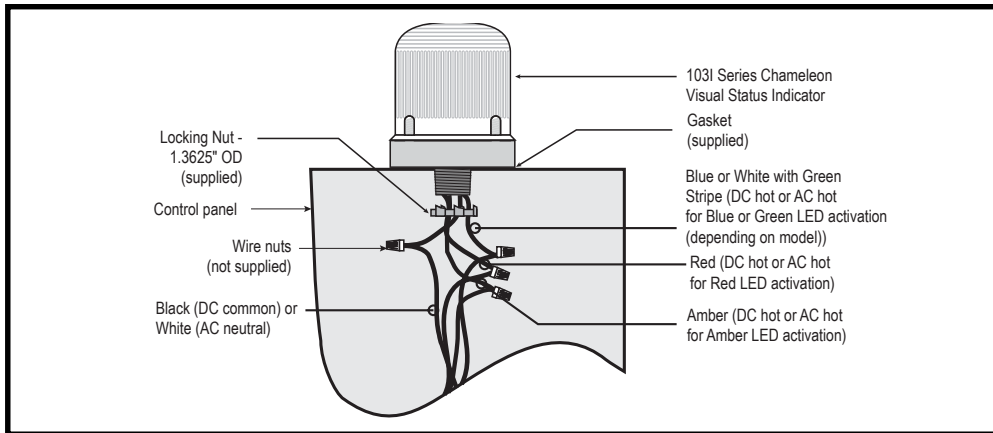

Figure 3. Panel Mounting
- a. Remove (4) screws securing the lens to the base from bottom of base (Figure 3) and remove lens.
Panel Mounting (Figure 3)